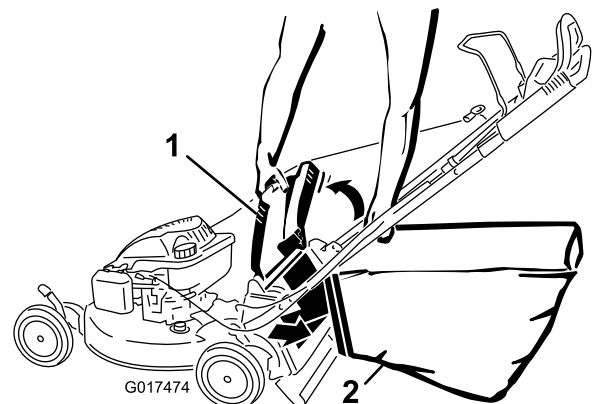

Figure 25
4. Hang the upper front edge of the bag on the notches (Figure 25).